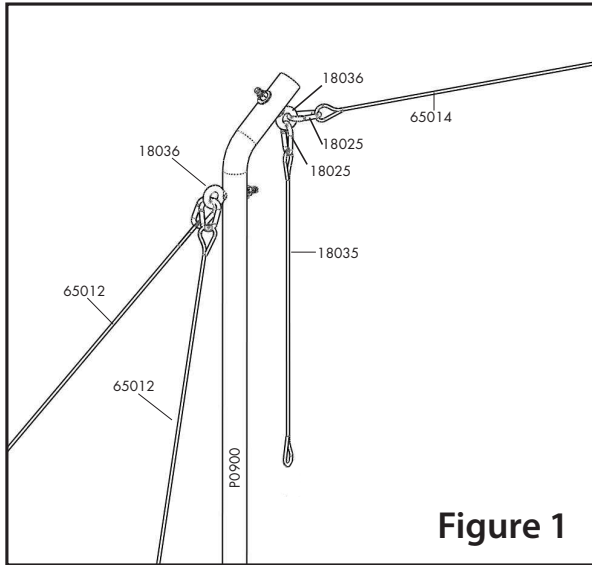

Figure 1
1. Install one eye bolt (18036) onto the top inside and bottom outside of the top uprights (P0900) (**Fig. 1**).